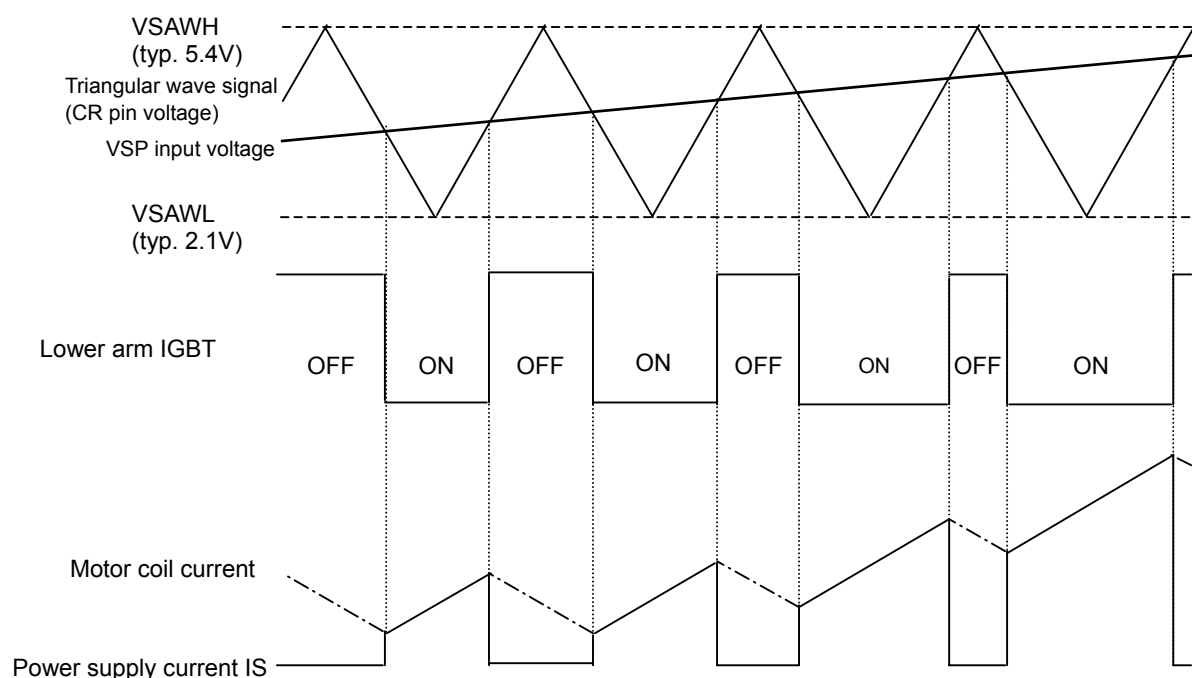

Fig. 5-10. Timing chart of PWM operation
(1) PWM operation
- Chopping with PWM is conducted by the lower arm. (See Fig.5-10.)